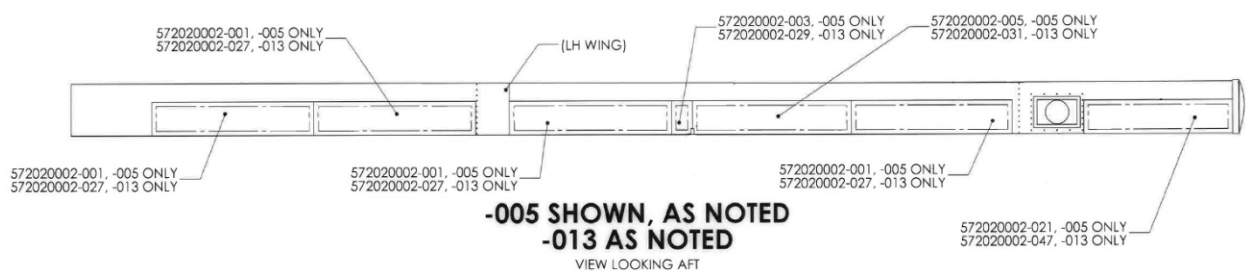

Figure 8-10
2. Locate -003 / -029 and -005 / -031 (510) or -013 / -039 and -015 / -041 (660) shields at stall horn, verify fit. (Reference Figures 8-10 & 8-12)
3. Align -021 / -047 (510 LH & RH) and -025 / -051 (660 LH & RH) shields at bird light, verify fit. (Reference Figures 8-10 – 8-13)
4. Locate remaining shields on both wings as shown in Figures 8-10 through 8-13 starting with those located closest to rivet rows.